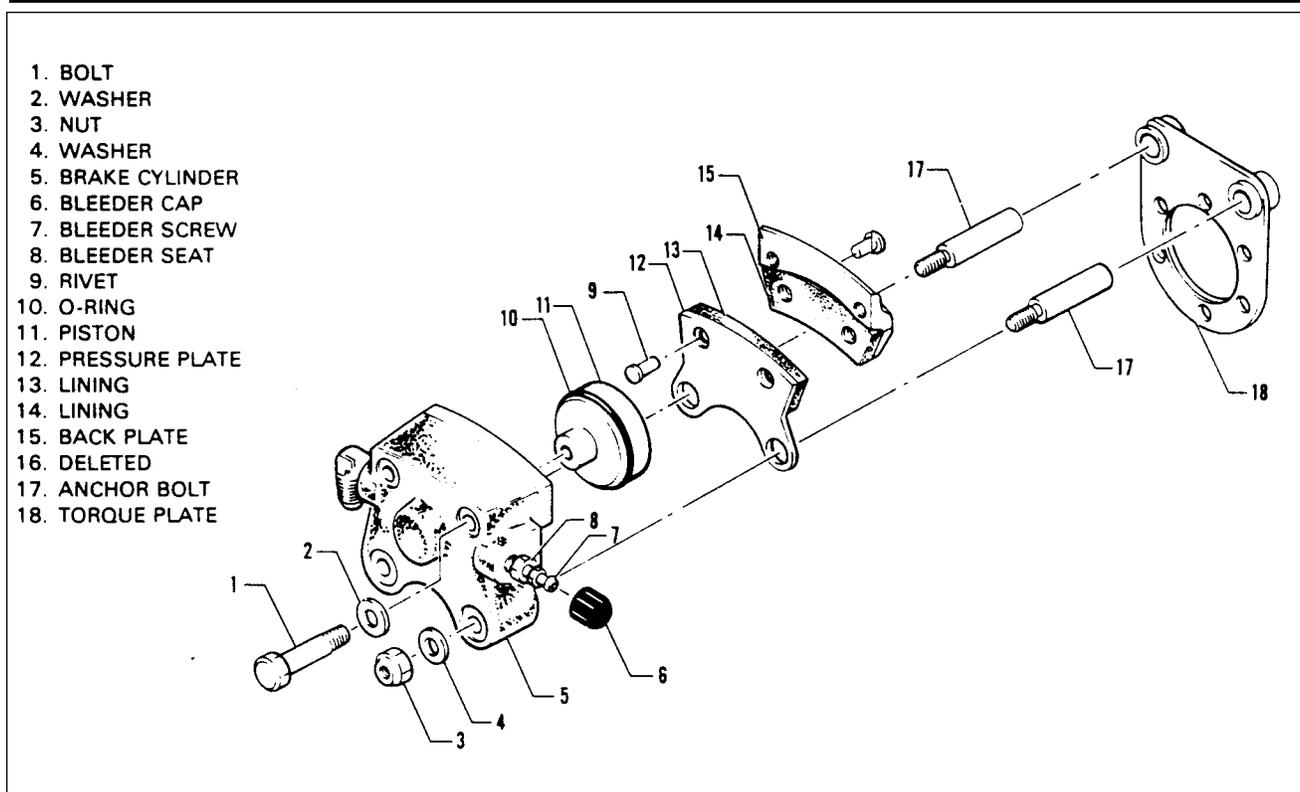

Figure 32-9. Standard Brake Assembly (Cleveland 30-55)
#### **REMOVAL AND DISASSEMBLY OF BRAKE ASSEMBLY (figures 32-9 and 39-10)**
**ASSEMBLY AND INSTALLATION OF BRAKE ASSEMBLY (figure 32-9)**